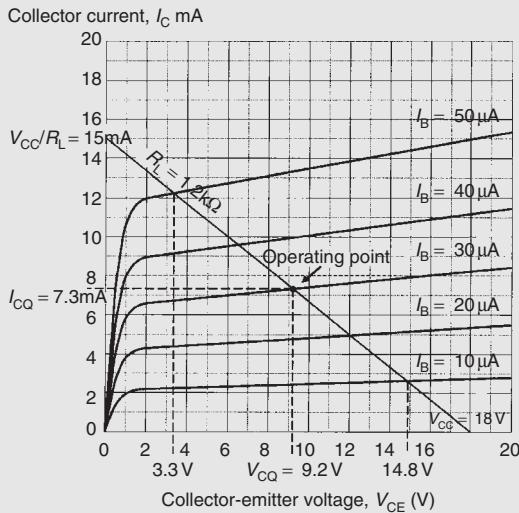

Figure 12.25
**Problem 11.** The characteristic curves shown in Fig. 12.25 relate to a transistor operating in common-emitter mode. If the transistor is operated with  $I_B = 30\text{ }\mu\text{A}$ , a load resistor of  $1.2\text{ k}\Omega$  and an
- (a) First we need to construct the load line on Fig. 12.25. The two ends of the load line will correspond to  $V_{CC}$ , the 18 V supply, on the collector-emitter voltage axis and 18 V/1.2 k $\Omega$  or 15 mA on the collector current axis.
- (b) Next we can determine the maximum and minimum values of collector-emitter voltage by locating the appropriate intercept points on Fig. 12.25. Note that the maximum and minimum values of base current will be  $(30 \mu\text{A} + 20 \mu\text{A}) = 50 \mu\text{A}$  on positive peaks of the signal and  $(30 \mu\text{A} - 20 \mu\text{A}) = 10 \mu\text{A}$  on negative peaks of the signal. The maximum and minimum values of  $V_{CE}$  are, respectively, 14.8 V and 3.3 V. Hence,